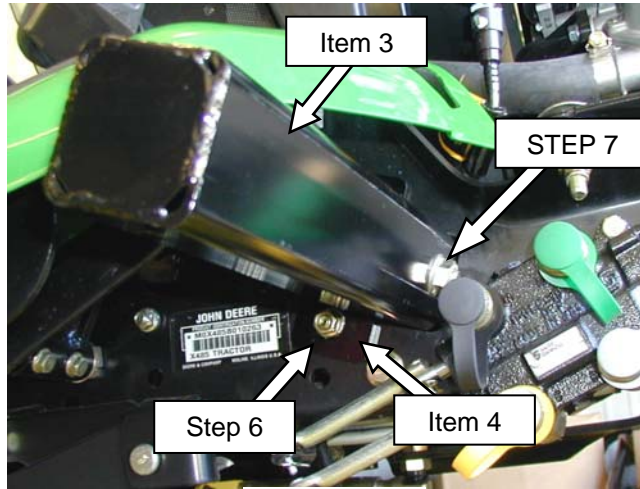

Figure 4
- 6) Attach the front mount retaining bracket (Item 4) to RH side of tractor frame under foot deck area. Secure to frame using (2) 3/8 x 1.00" bolts, (2) 5/16" flat washers and (2) 3/8" serrated flange nuts. See figure 4.
- 7) Remove front mount tube (Item 3) from cab. Set hardware aside for re-use in Step 14. Insert tube into tractor frame. Use a 1/2 x 3.50" bolt with a 1/2" flat washer and a 1/2" nylock nut to secure tube to front mount retaining bracket. See figure 4.